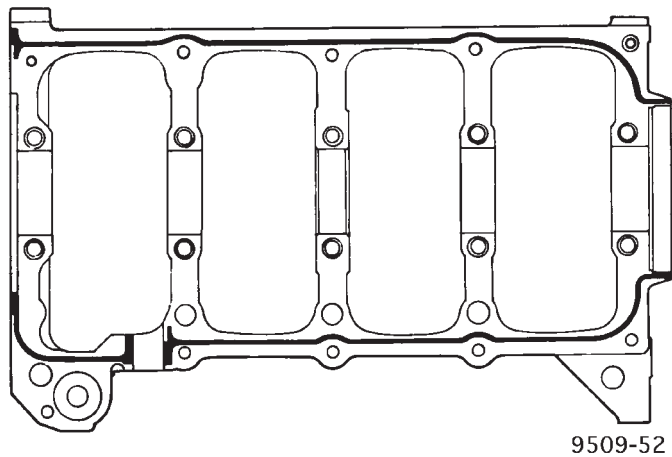

Fig. 105 Main Bearing Caps/Bedplate Sealing
(4) Apply 1.5 to 2.0 mm (0.059 to 0.078 in.) bead of Mopar® Torque Cure Gasket Maker to cylinder block as shown in (Fig. 105).